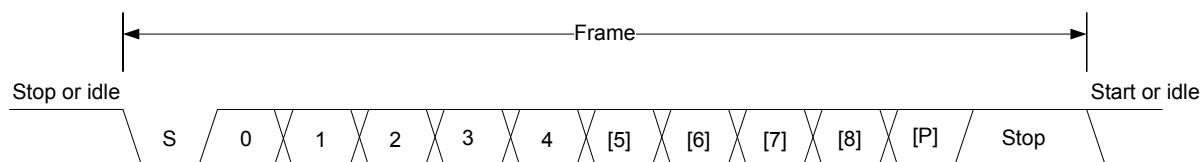

Figure 18.2. USART Asynchronous Frame Format
The frame format used in asynchronous mode consists of a set of data bits in addition to bits for synchronization and optionally a parity bit for error checking. A frame starts with one start-bit (S), where the line is driven low for one bit-period. This signals the start of a frame, and is used for synchronization. Following the start bit are 4 to 16 data bits and an optional parity bit. Finally, a number of stop-bits, where the line is driven high, end the frame. An example frame is shown in Figure 18.2 USART Asynchronous Frame Format on page 530.